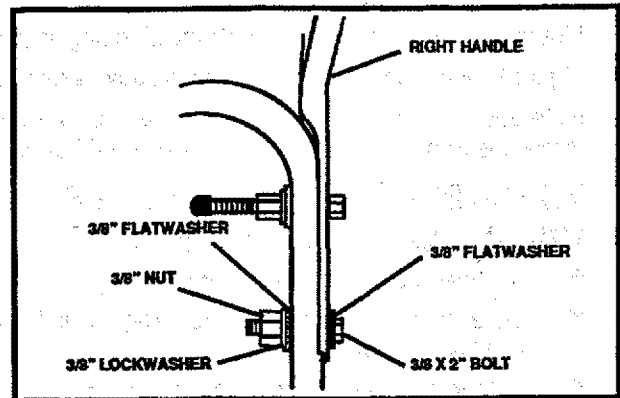

FIG. 4A
- On the right side of the handle, install and secure the following parts (found in parts bag) in the lower handle hole as shown in Fig. 4A: